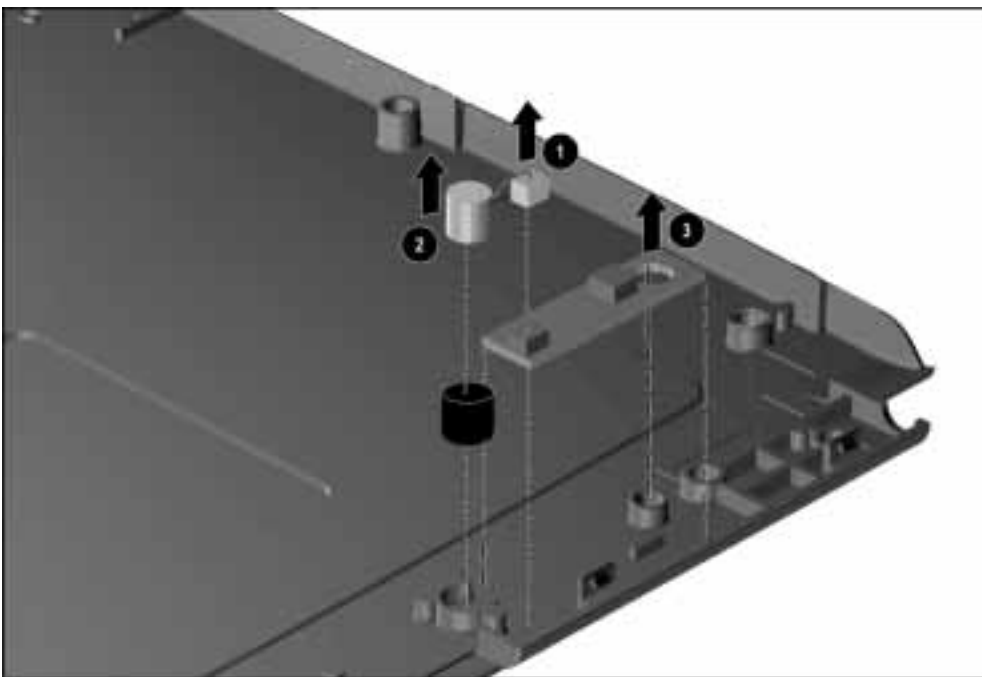

Figure 5-41. *Removing the Microphone*
7. Disconnect the microphone cable from the microphone board ❶ and remove the microphone ❷ (Figure 5-41).
8. Remove the microphone board from the enclosure ❸.